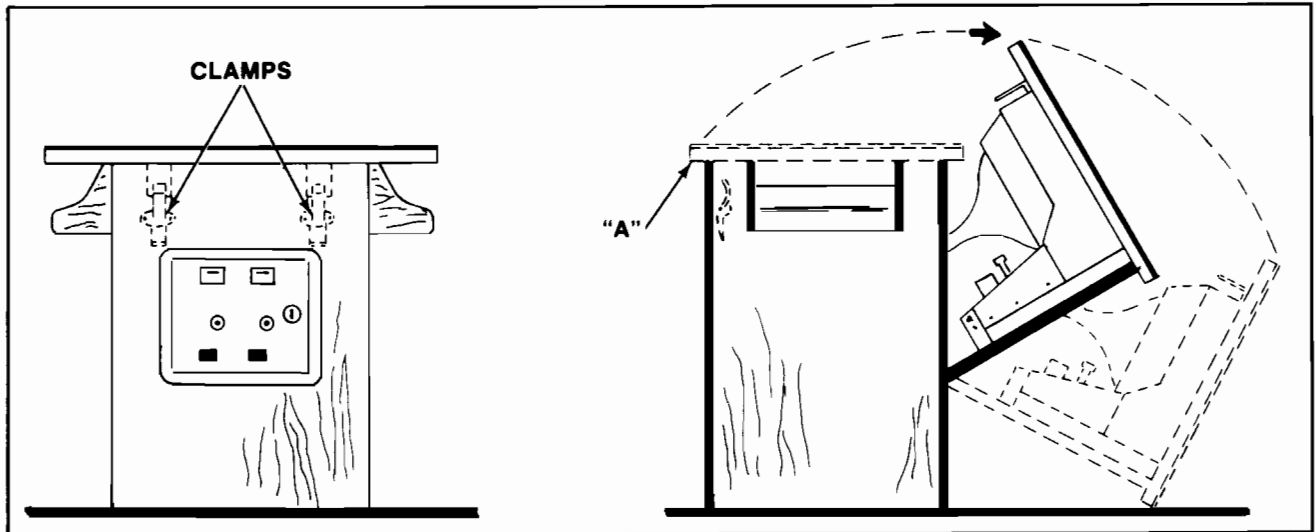

Figure 2-4 Opening the Cocktail Game
**2.4.3 COCKTAIL TABLE MODEL:** (See Figures 2-4 and 2-5)
Open the coin box door and release the two latches indicated in Figure 2-4.
Grasp the table top at "A" and open it as indicated in Figure 2-4.